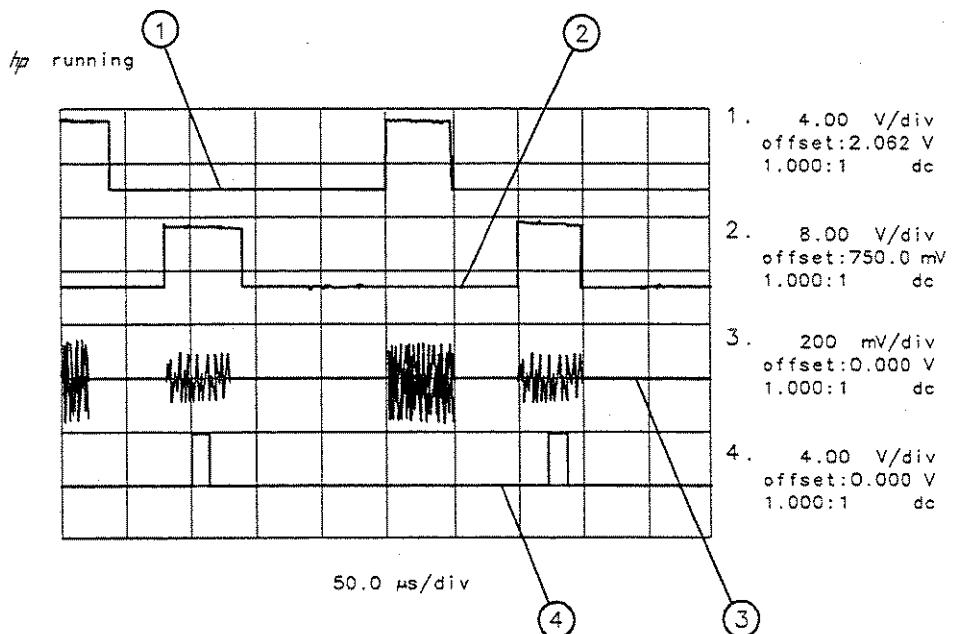

Figure 2-61. Placing the Gate Output During the Second Signal
- To view the second signal, change the gate delay so that the gate output is under the second signal. Since the second signal had a signal delay of approximately $85 \mu\text{s}$, we set the gate delay to $85 \mu\text{s}$ plus the pulse width/2, or $110 \mu\text{s}$. Press [SWEEP], [GATE MENU], 110 [μs] to set the gate delay to $110 \mu\text{s}$. Using an oscilloscope can be helpful in placing the gate output during the pulsed signal. See Figure 2-61.